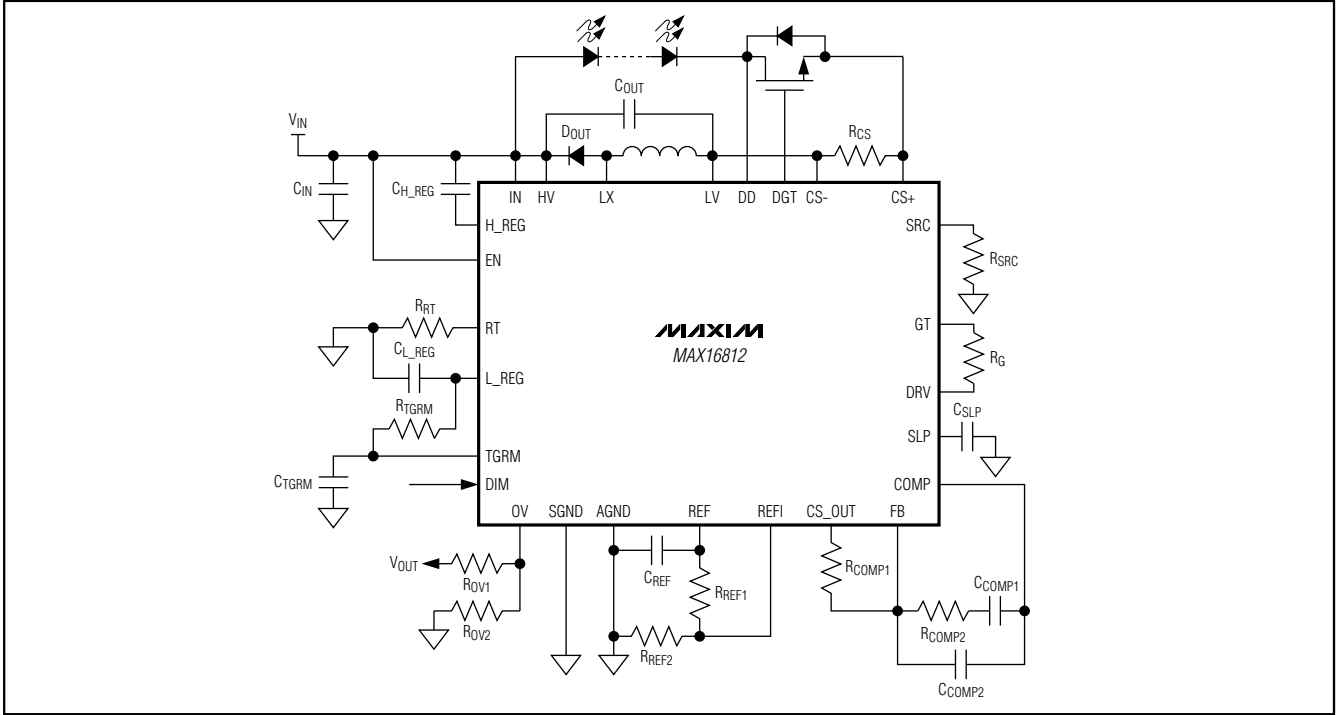

Figure 13. Buck Configuration
**Buck Configuration:** In a buck configuration (Figure 13), the average inductor current does not vary with the input. The worst-case peak current occurs at the highest input voltage. In this case, the inductance,  $L$ , for continuous conduction mode is given by: